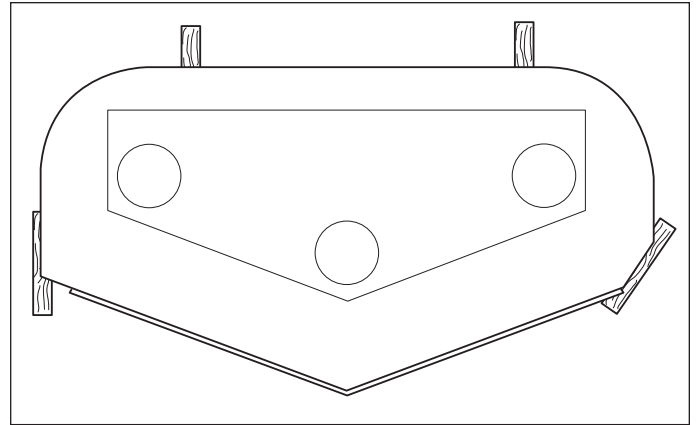

Figure 42. 2 x 4 Locations
3. Place 2 x 4 blocks under each corner of the mower deck with the 3-1/2" sides being vertical. Place a 1/4" (0,64cm) thick spacer on top of the rear 2 x 4 blocks. See Figure 42.